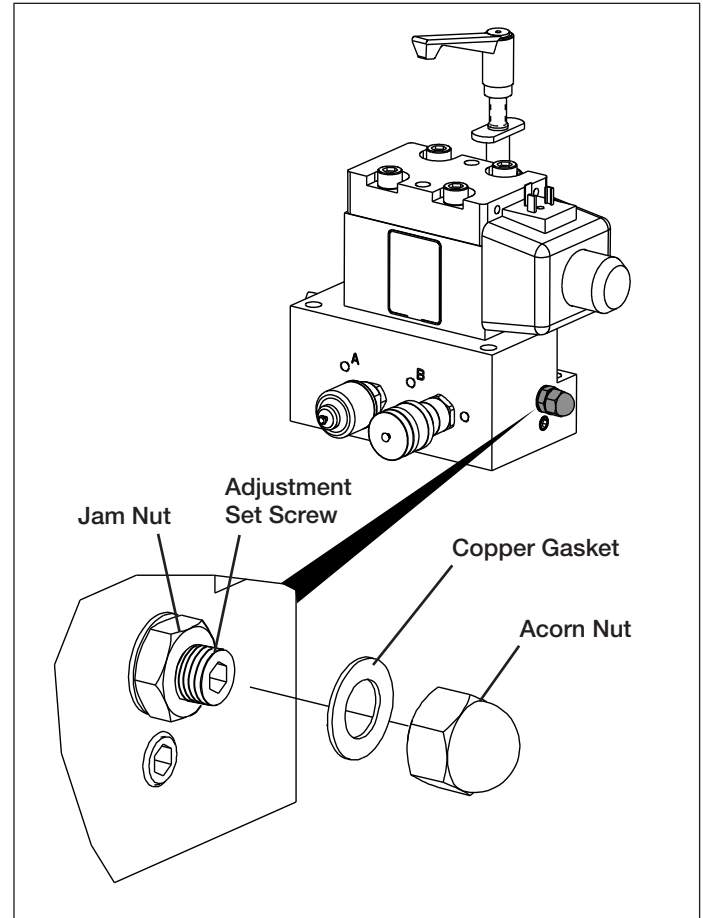

Figure 13, B-Port Relief Valve Adjustment (typical)
A separate relief valve limits the maximum B-Port retract pressure. See Figure 13.
- Remove acorn nut using a 9/16" socket wrench. This will expose the adjustment set screw. See Figure 13.